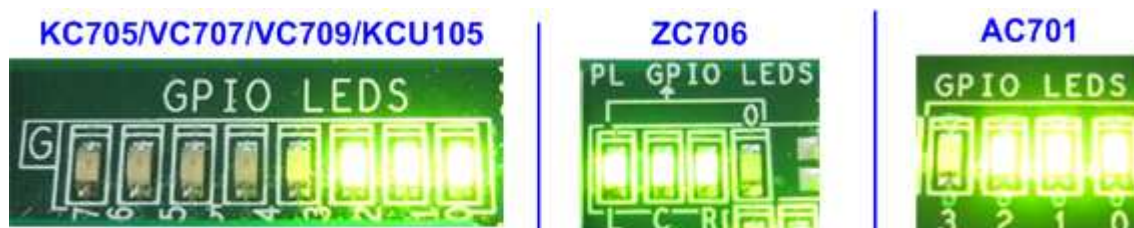
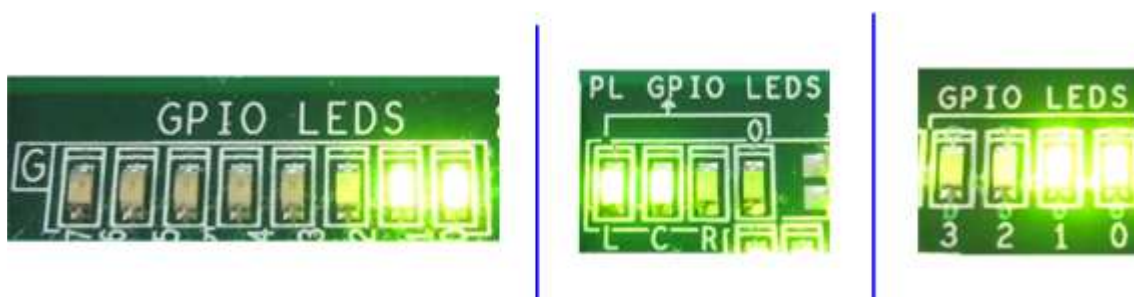

Figure 2-8 LED status after system set up complete on SATA-3 speed
Figure 2-9 LED status after system set up complete on SATA-2 speed
- After FPGA start operation, check (PL) GPIO LEDs status on FPGA board at LED0/L-LED1/C. Both LEDs must be ON, as shown in Figure 2-8 and Figure 2-9. LED2/R status depends on SATA speed status. Each LED description is described as follows.